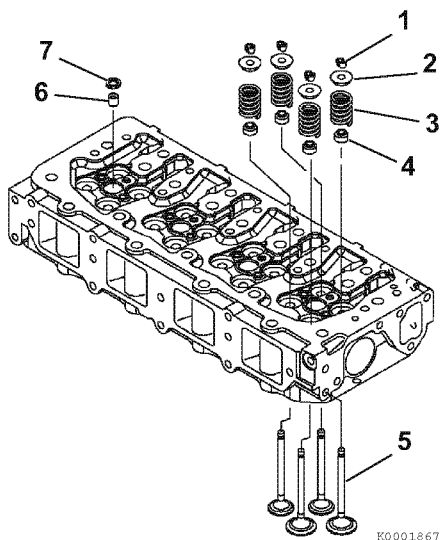

Figure 6-49
3. Remove the valve keepers (1, **Figure 6-49**).
5. Remove the spring retainer (2, **Figure 6-49**), valve spring (3, **Figure 6-49**).
7. Remove the injector nozzle protectors (6, **Figure 6-49**) and the seats (7, **Figure 6-49**).
8. Turn the cylinder head so the exhaust port side faces down. Remove the intake and exhaust valves (5, **Figure 6-49**) from the cylinder head.
9. Remove the valve stem seals (4, **Figure 6-49**).